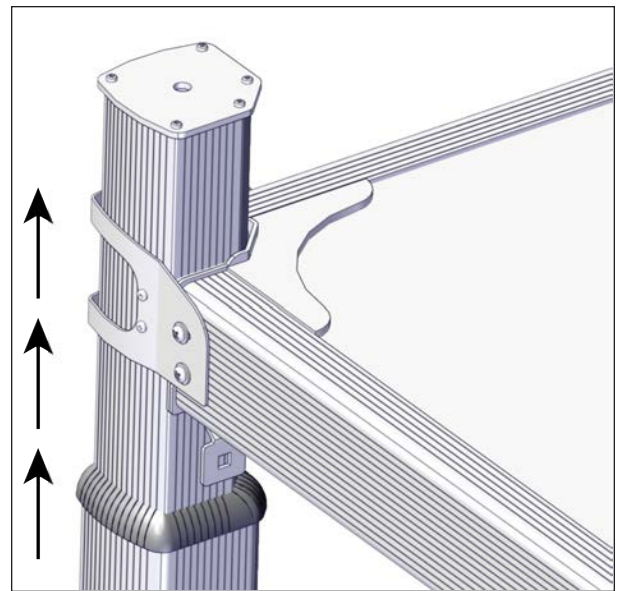

FIGURE 49: CHECKING THE SLEEVE INSTALLATION
29. Check the installation of the brackets by trying to lift each sleeve. Review previous steps for any broken screws or to retighten screws if the sleeve keeps moving, see Figure 49.